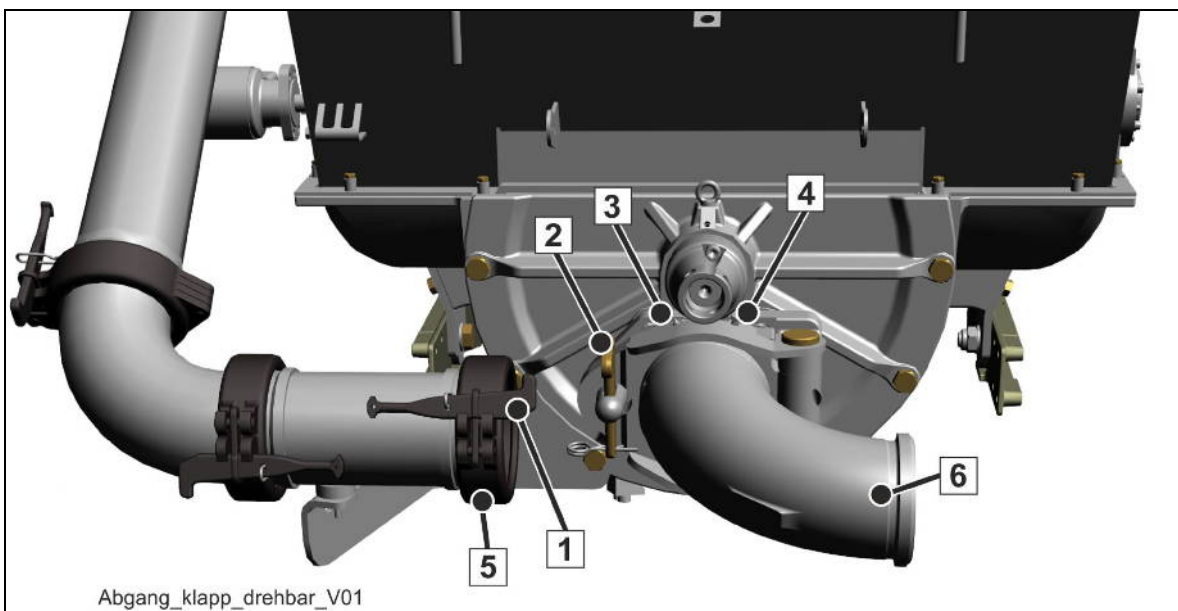

Fig.: 10
For a simplified connection of a separate pumping line, certain SCHWING truck-mounted concrete pumps can be optionally equipped with a foldable and rotatable outlet (6; Fig.: 10).
- Loosen both the safety screw (4) and the second safety screw offset by 180° by approx. half a rotation.
- Rotate the foldable and rotatable outlet into the required position (e.g. 6; Fig.: 10) and fold it back.
About once a week, squeeze some grease into the grease nipple (3; Fig.: 10) and into the second grease nipple offset by 180°.